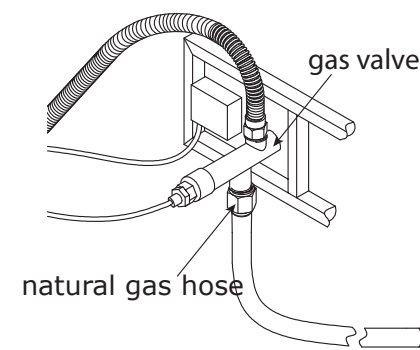
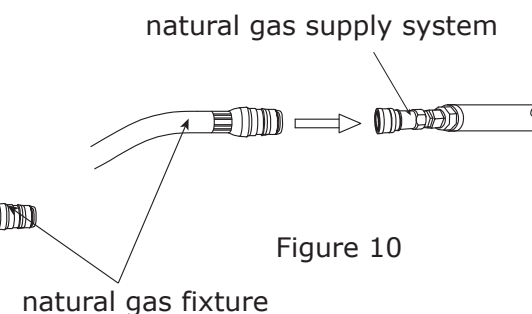

Figure 9
Figure 10
4. Connect the natural gas hose to the gas valve by screwing clockwise tightly (see Figure 9). Plug the natural gas fixture into the natural gas supply system (see Figure 10). The conversion kit should be CSA certified. Below are several suggested CSA certified conversion kits for your reference.